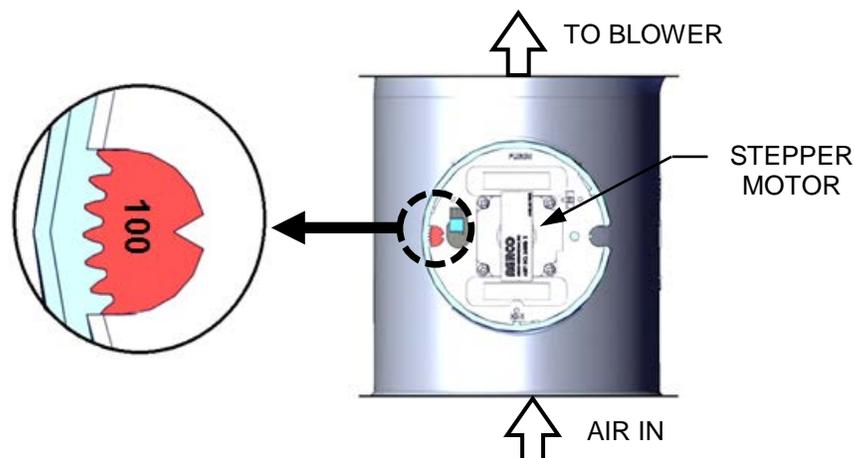

Figure 3-2: Air/Fuel Valve In Purge Position
- c. The Air/Fuel Valve rotates to the full-open purge position and closes purge position switch. The dial on the Air/Fuel Valve (Figure 3-2) will read **100** to indicate that it is full-open (100%).